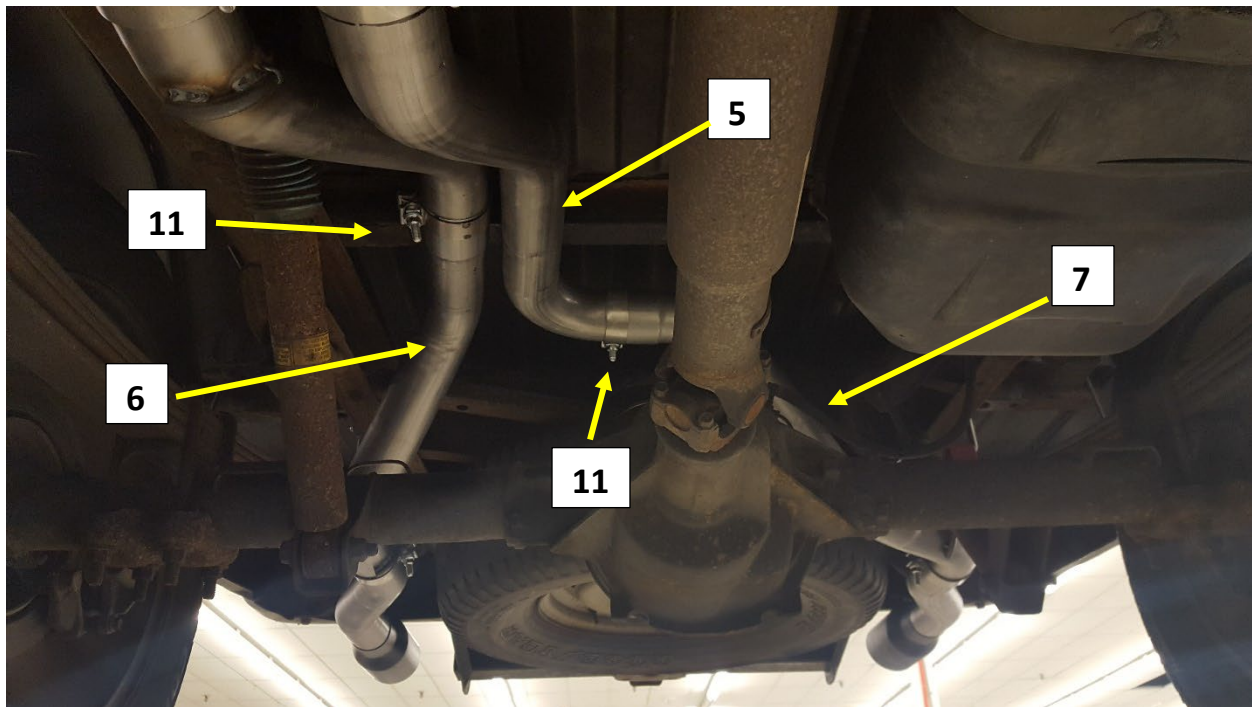

Figure.8
14. Install a 3" band clamp on to the expanded end of the right Tail pipe (6) with the bolt at the outside of the pipe and the nut facing down. **Fig.8**
15. Install the right Tail Pipe (6) over the axle and into the muffler. Install the hanger rod into the rubber isolator on the frame hanger. Adjust the tail pipe with the hanger rod level with the frame hanger and tighten the clamp. **Fig.8**
16. Install a 3" band clamp (11) on to the expanded end of the left tail pipe (7) with the bolt at the rear of the pipe and nut facing down. **Fig.8**
17. Install the left tail pipe (7) on to the left muffler outlet pipe (5). Install the hanger rod into the red rubber isolator on the frame hanger. Adjust the tail pipe for approx. 1" to 1.5" clearance between the tail pipe and shock and tighten the clamp to allow for adjustment. **Fig.8**